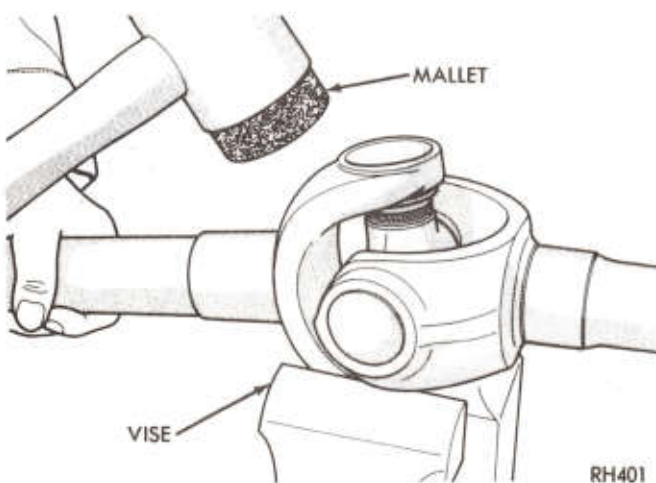

Fig. 8—Removing Bearing Caps
(1) Remove the snap rings from the two ears in each yoke.
(2) Position joint assembly in an open vise with one yoke "Horizontal" and resting on top of vise jaws (Fig. 8). Do not tighten vise.
(3) With a mallet, tap upper ear of "vertical" yoke several times, driving vertical yoke down pushing out upper needle bearing and cap.
(4) Reverse yoke and remove opposite needle bearing and cap.